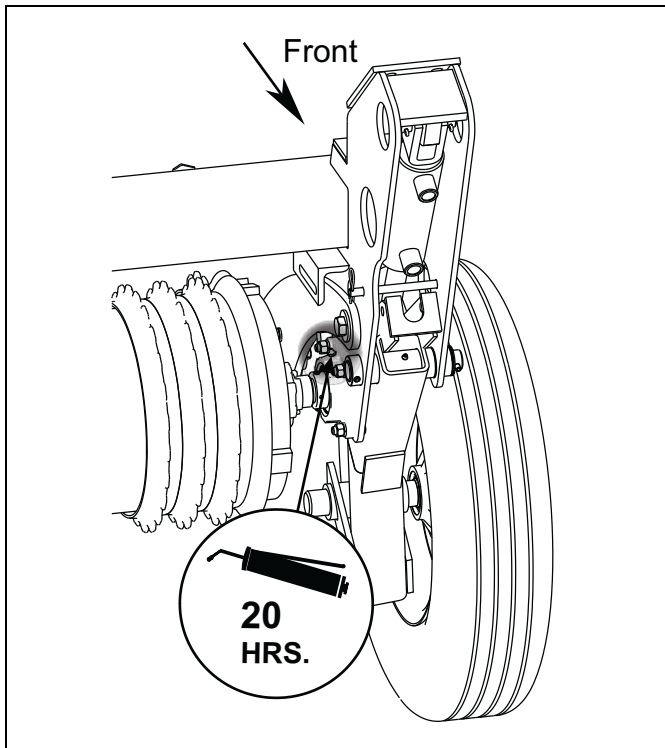

Figure 4-1: Lube Points (1 of 2)
- All machines have a grease zerk on the bearing on each end of the front and rear rollers. Pull type machines have a zerk on each wheel arm pivot as well. **See Figures 4-1 and 4-2.**